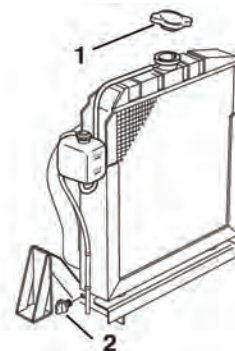

Figure 304
2. Remove the radiator cap (1, Figure 304).
3. Remove the drain plug or open the drain cock (1, Figure 304) at the lower portion of the radiator and drain the coolant.